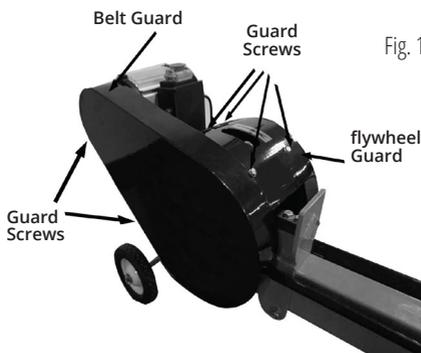

Fig. 11
1. Use a 13 mm wrench to remove the Guard Screws that secure the flywheel Guard (Fig 11).